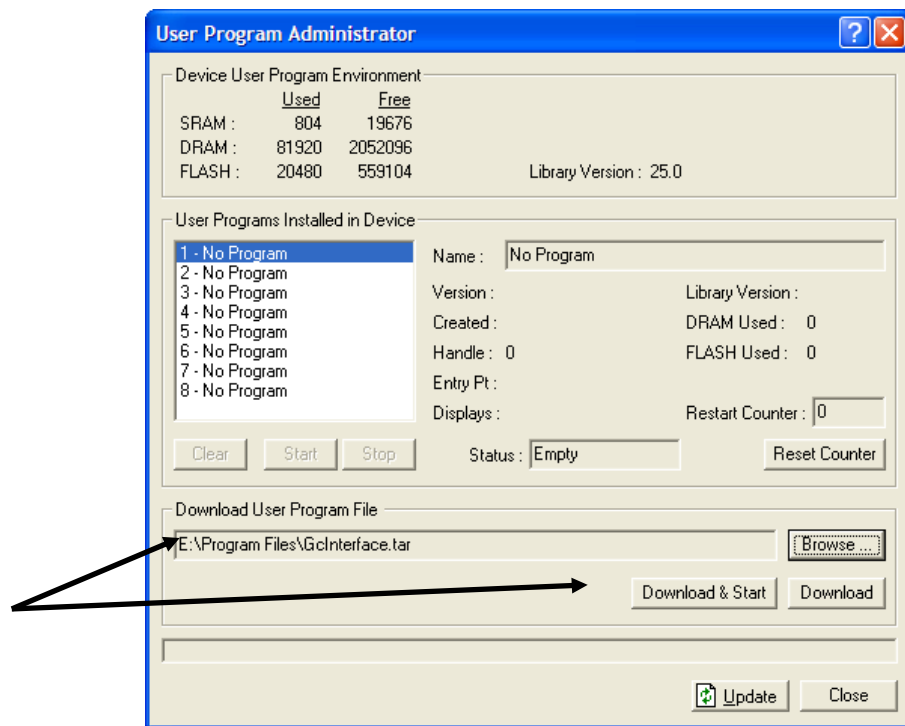

Figure 7. User Program Administrator
- Click **Open** to select the program file. The User Program Administrator screen displays. As shown in Figure 7, note that the Download User Program File frame identifies the selected program and that the **Download & Start** button is active: